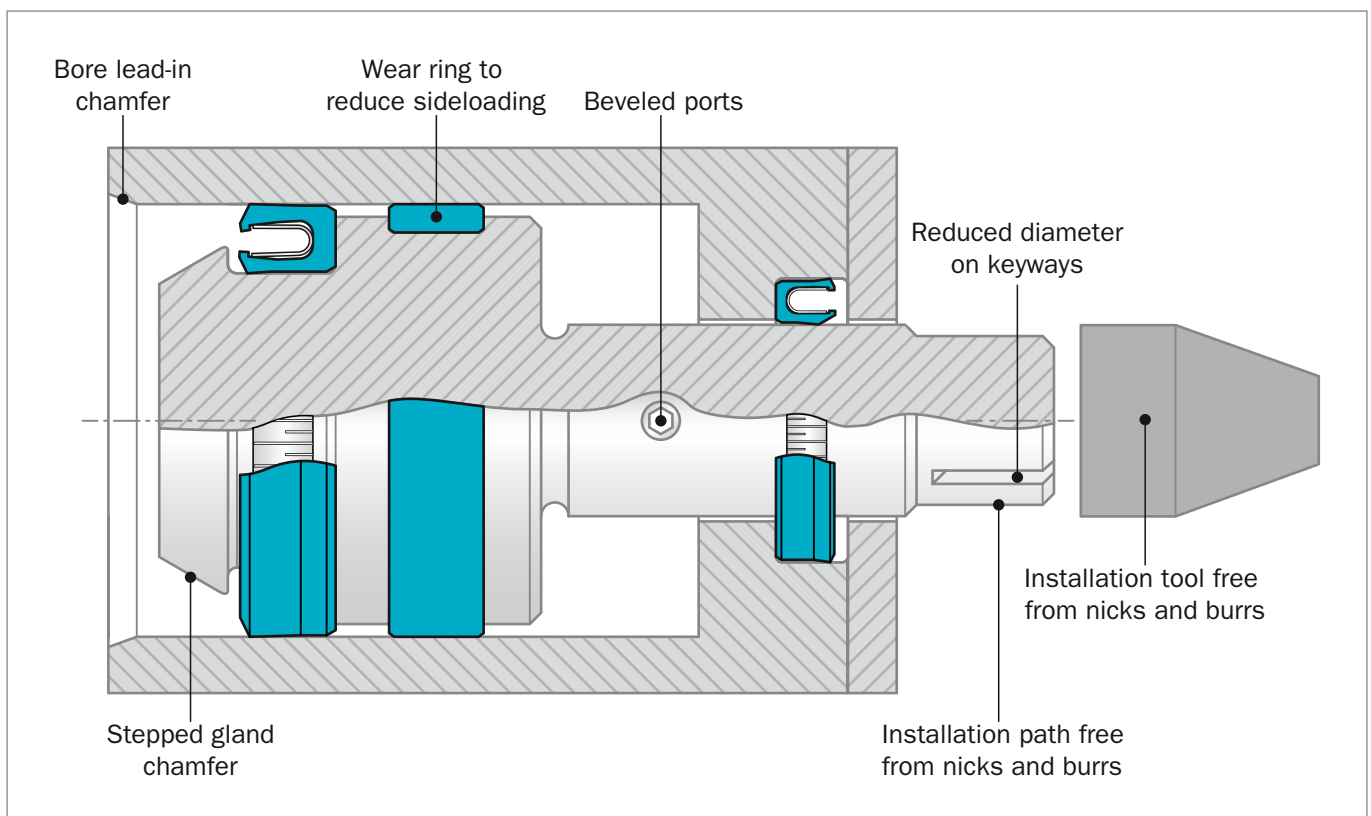

Figure 9: Methods of Hardware Design to Prevent Seal Damages
- Designate splines or keyways to fall on a smaller diameter than the sealing surface or use a protective sleeve to cover them during installation as illustrated in Figure 9 below.